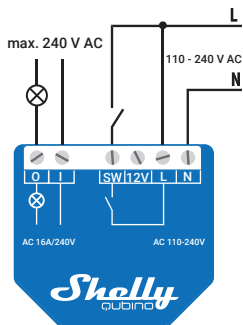

Fig. 1
**If you are using AC power supply** for the Device, connect the Live wire to the Device L terminal, and the Neutral wire to the N terminal as shown on Fig. 1. Connect a switch or a push-button to the Device SW terminal and the Live wire.